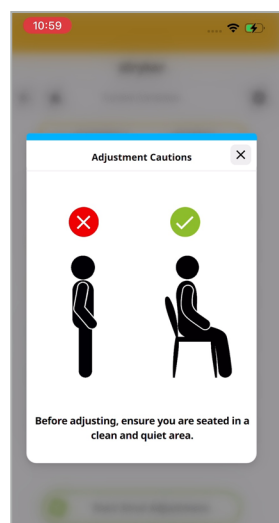

Figure 41
- Review and accept the Adjustment Cautions notification by selecting the “X” in the upper right corner, which will close the dialogue box. **(Figure 41)** This notification reminds you to be positioned comfortably and non-weight bearing before initiating a correction.